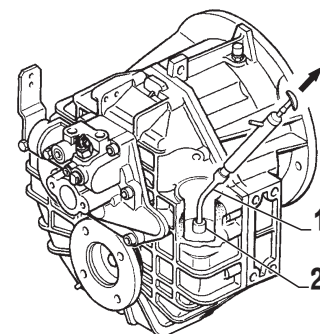

FIG. 1-2
Push hose of suction pump (item 1, Fig. 1-2) through the suction pipe (item 2, Fig. 1-2) down to the bottom of the housing and suck the fluid off.